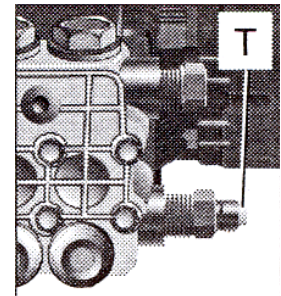

Fig. 16: Thermal Relief Valve
- e. **YOU MUST SPRAY WITHIN TWO MINUTES TO PREVENT TEMPERATURE BUILD-UP THAT CAN DAMAGE THE PUMP. IF THE THERMAL RELIEF VALVE (T) IS RELEASING WATER THEN THE WATER IN THE PUMP IS HOT ENOUGH TO DAMAGE THE SEALS (Fig. 16). IF YOU AREN'T SPRAYING TURN OFF THE PRESSURE WASHER.**